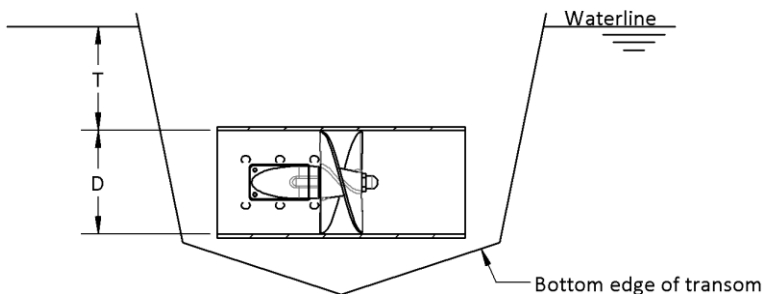

Figure 6 – Bolt-on thruster submersion recommendation
- Insufficient submersion can cause air to be sucked into the thruster tube which can result in excessive noise and vibration, decreased thrust, and damage to the thruster. The top of the tube should be at least one tunnel diameter deep from the *lightest* waterline (i.e., T should be greater than D in Figure 6). For vessels operating in open seas an allowance for pitch, roll, and wave action should be added to the minimum submersion recommendation.